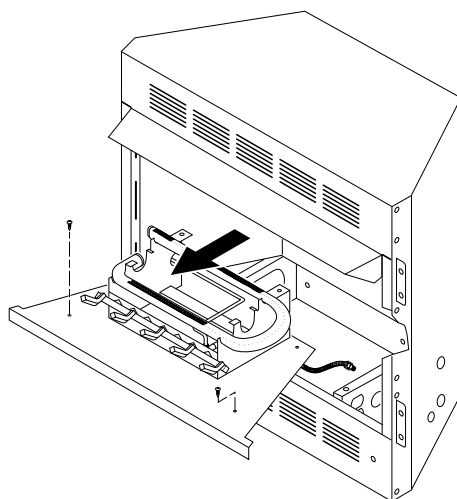

Figure 18 - Removing Log Base Assembly From Fireplace
2. Remove screws that attach log base assembly to fireplace (see Figure 18, page 12). Carefully lift up log base assembly and remove from fireplace (see Figure 18).